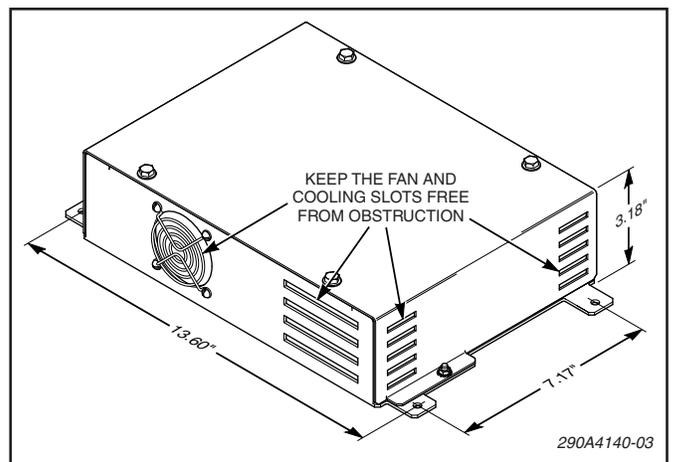

Figure 3-2.
- A. Use the amplifier housing as a template and scribe four drill positioning marks at the selected mounting location (see figure 3-2).